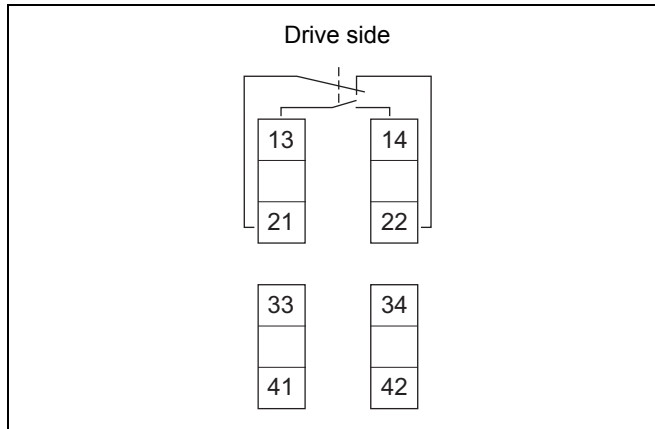

Fig. 5-6: Connector pin assignment
5. Pull the connection cable through the screw connection (6).
6. Connect the connection cable to the switching elements (7) according to the connection diagram (s. *Abb. 5-6*).
7. Tighten the screw connections (6).
8. Connect the protective conductor at the screw M 5 (8).
9. Close the cover (2) of the belt misalignment switch and tighten the four locking screws (5).